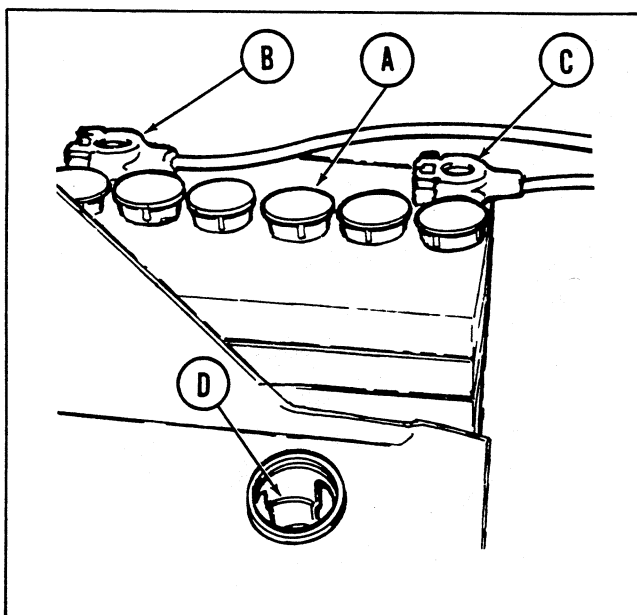

Figure 30. Tractor battery visible when hood is raised.
CHECK BATTERY WATER LEVEL: See figure 30. Every 25 hours, or more often when operating the tractor in temperatures above 72°F, remove the 6 battery caps (A)
and check the water level in each cell. When the battery is in use, water evaporates from it. Never allow the water level in the battery to get below the top of the plates. Fill the battery to the marking ring (D) with distilled water as shown in figure 30. If distilled water is not available, clean tap water may be used.
CLEAN BATTERY CABLES: See figure 30. Every 100 hours or once a year the battery cables (B) and (C) should be removed and cleaned. **CAUTION: ALWAYS REMOVE THE NEGATIVE "GROUND CABLE" (C) FIRST AND REPLACE IT LAST.** Clean the battery with soap and water to remove all dirt, oil, and corrosion from the battery surface. Do not allow foreign material or cleaning solution to get inside the battery. Clean the terminals and battery clamps with a wire brush. Replace and tighten securely. After tightening coat the terminals and clamps liberally with a coat of grease or vaseline to inhibit corrosion.